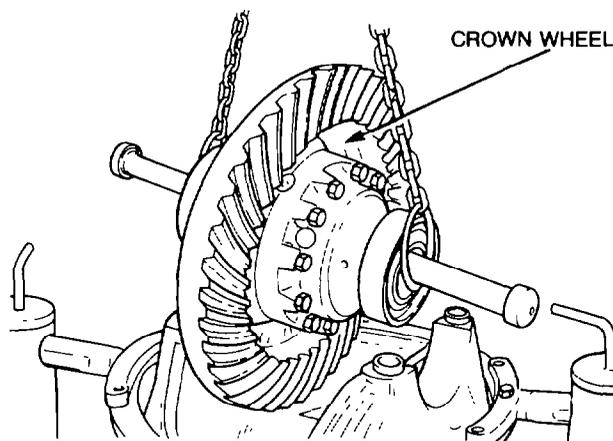

Figure 222 — Installing Crownwheel and Differential Assembly
- u. Lubricate the side carrier bearing cups with differential oil and position the cups on the bearing cones. Attach suitable lifting equipment to the crownwheel and differential assembly and lift the assembly into position in the carrier housing (see Fig. 222).